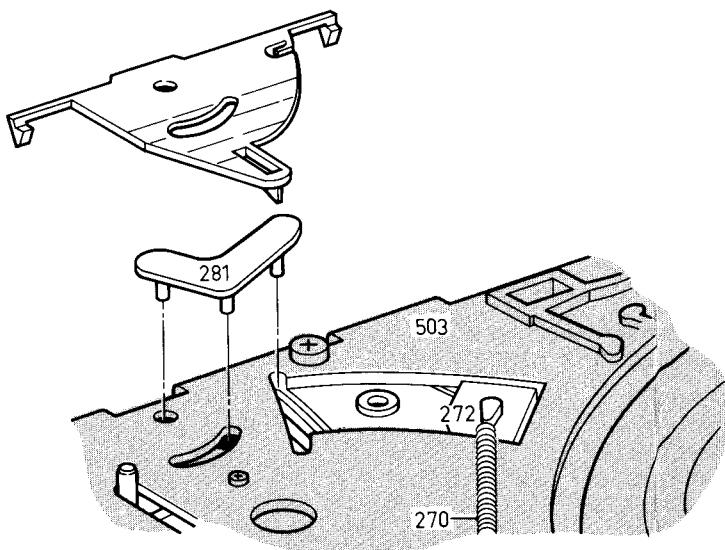

Fig. 1-24
- Unlock the cover pos. 282, at the right-hand and left-hand side (Fig. 1-24).
- Demount blocking bracket pos. 281 (Fig. 1-24).